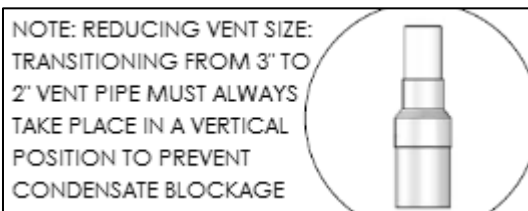

Figure 10 – Transitioning from 3" to 2" Vent Pipe
5. For 2" installations, install a reducing coupling in a vertical section of pipe. See Figure 10.